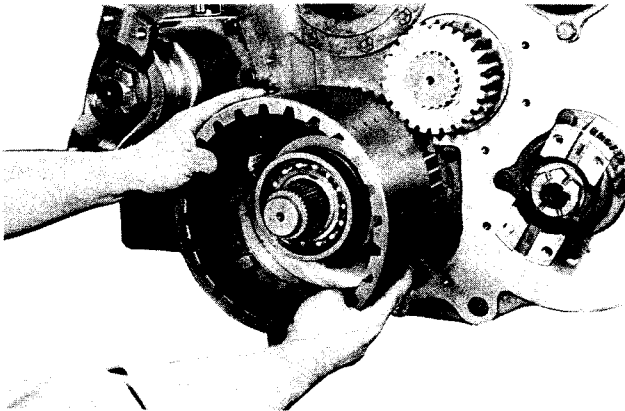

Figure 99
**NOTE:** If clutch drum taper bearings are used, install drum, washer and selected snap rings on the specific drum support these parts were matched with, then proceed with Figures 99 thru 110.